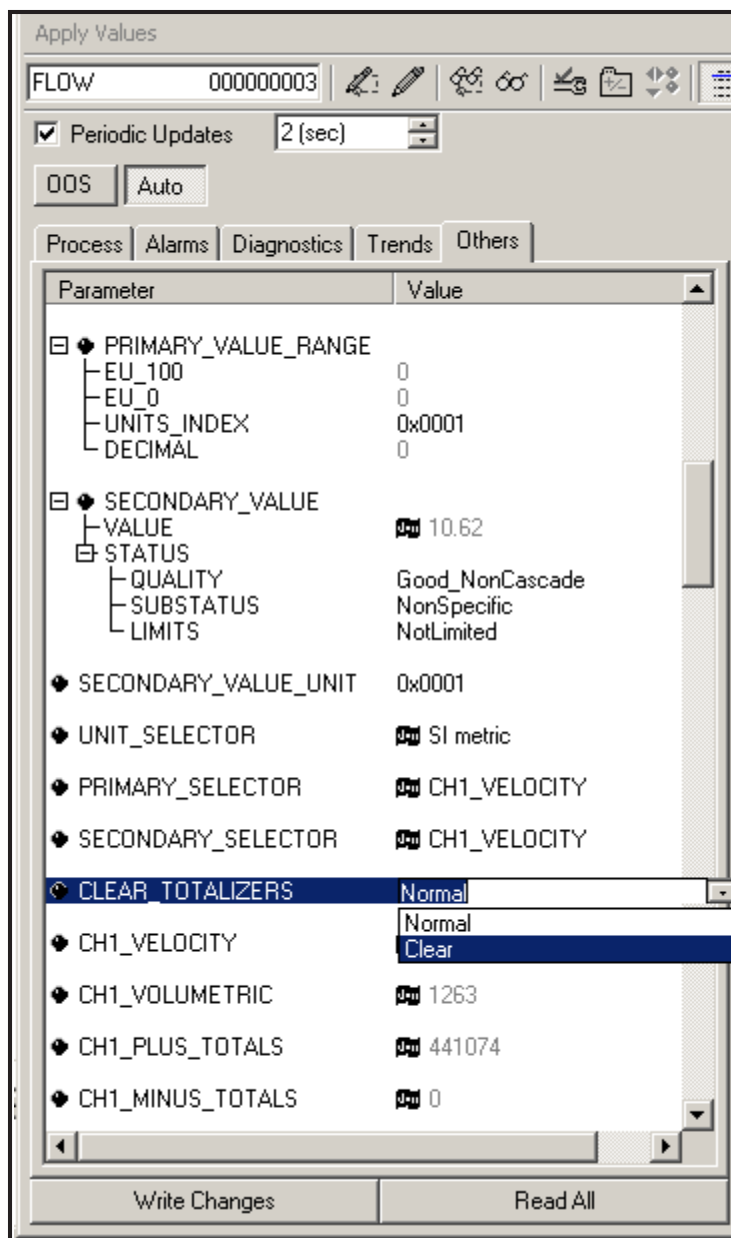

Figure 62: Clear Totalizers Drop Down List
3. Select **Clear** from the drop down list box (see *Figure 62* below).